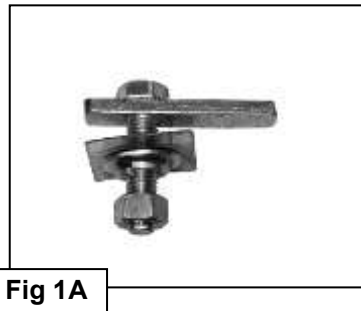

Fig 1A
- Select (1) 10mm Bolt Plate and partially thread a Plastic Retainer onto it, **(Fig 1A)**. Insert the Bolt Plate into the oval hole, **(Fig 1B)**. Once the Bolt Plate is inserted, hold the Bolt end with one hand and tighten the Plastic Retainer with your other hand until it is tight against the body panel. **IMPORTANT:** The Plastic Retainer is designed to prevent the Bolt Plate from falling into the body cavity and to aid in installing the Mounting Bracket. **FOR MID-YEAR 2015 & UP MODELS IT WILL BE NECESSARY TO USE THE 10MM FISH WIRE TO INSTALL THIS BOLT PLATE.** Insert fish wire into small slot and fish it until threaded end is present at large slot **(Figure 2A)**. Pull this end out slightly and thread 10mm bolt plate onto end of fish wire **(Figure 2B)**. Carefully feed bolt plate into rocker panel by pulling on opposite end of fish wire. Align 10mm bolt in slot and remove fish wire. Thread the 10mm plastic retainer down the bolt plate until it is flush against the sheet metal. **(Figure 2C)**